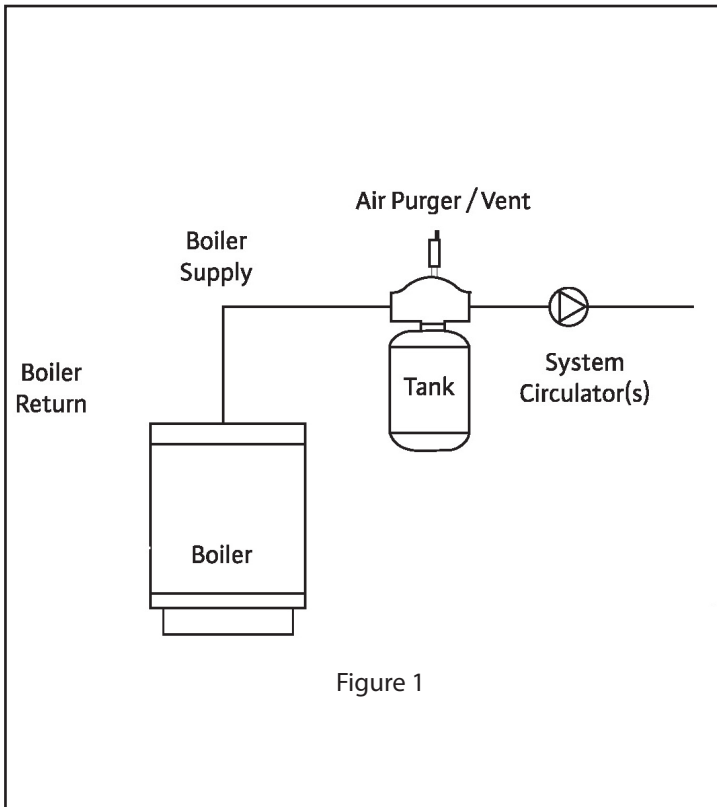

Figure 1
2. Install the tank on the supply side of the boiler, on the suction –side of the heating circulator(s) (see Figure 1).
2. The tank must not be placed overhead in the floor joist space. When replacing a plain-steel tank, this tank should be relocated per Figure 1.